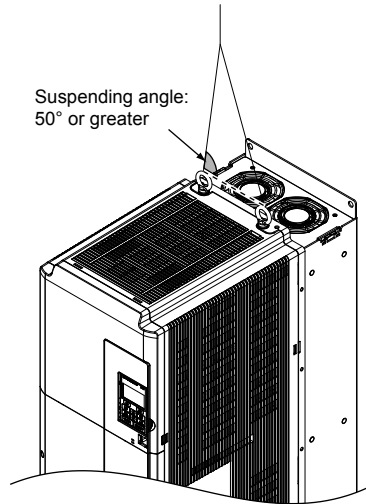

Figure i.12 Suspension Using Wires and Eye Bolts
**WARNING! Crush Hazard.** Use an adequate length of wire to ensure a 50° or wider suspension angle as illustrated in Figure i.12. The maximum allowable load of the eye bolts cannot be guaranteed when the drive or filter module is suspended with the wires at angles less than 50°. Failure to comply may result in serious injury or death from falling equipment.